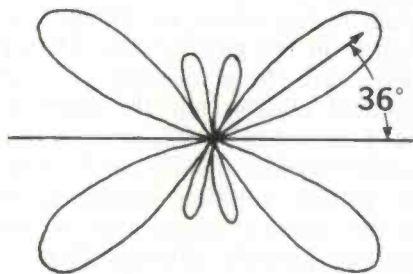

Fig. 4—Single-plane sensitivity curve for half-wave dipole at fourth harmonic.
3) and at its fourth harmonic (Fig. 4).